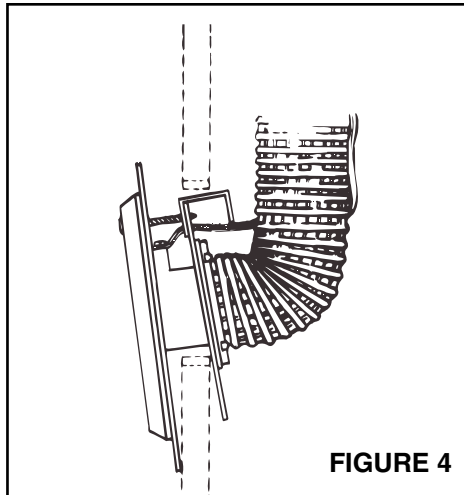

FIGURE 4
1. **Refer to Figure 4.** Place inlet into wall cutout. Angle the bottom of the mounting plate into the cutout, push the top into the cutout, and left assembly upward until screw sets in predrilled hole.